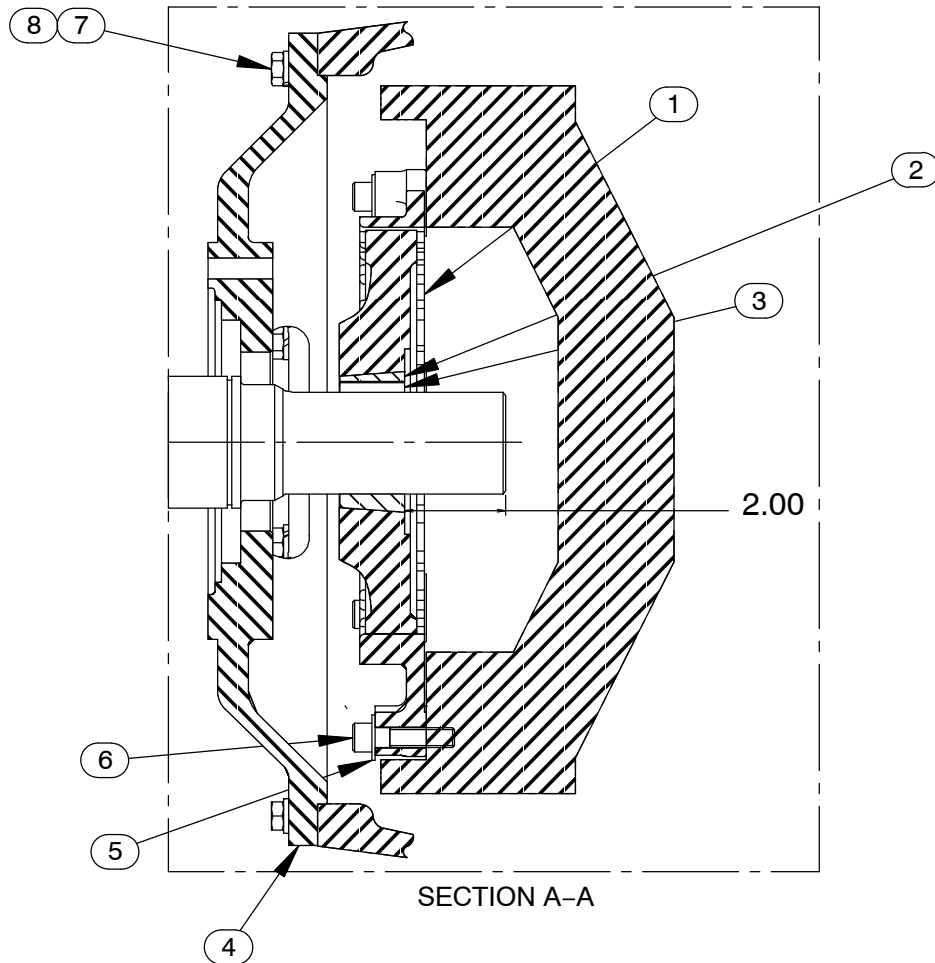

Figure 8. Drive Assembly
**Separating Pump And Drive Assembly From Engine****(Figure 8)**